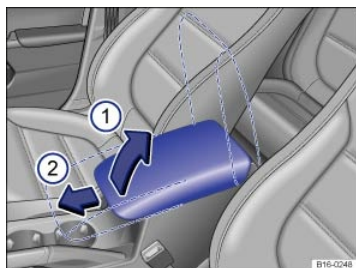

Fig. 45 Front center armrest.
To *raise* the center armrest, push the release button, pull the armrest up, and latch upward in the direction of the arrow $\Rightarrow$ Fig. 45①.